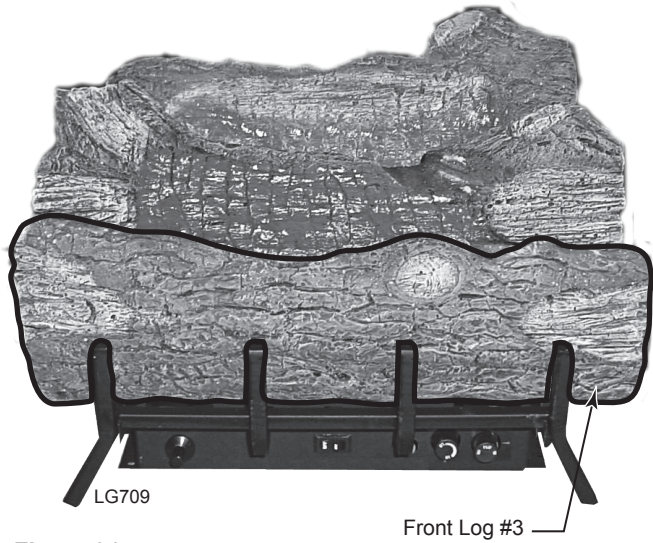

Figure 21 - Place Front Log
3. Place Front Log (#3) in between burner and grate. *Figure 21*